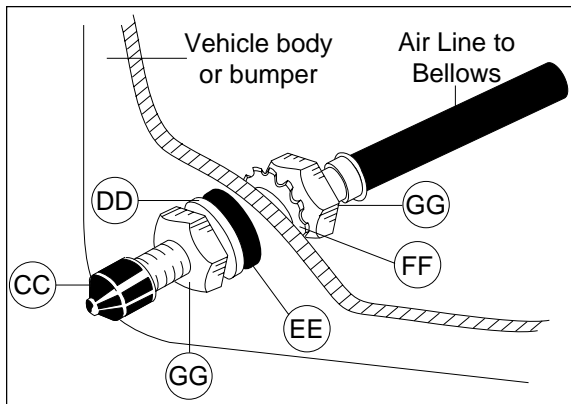

Figure 8
4. Place a $\frac{5}{16}$ " nut (GG) and a star washer (FF) on the air valve. Leave enough of the inflation valve in front of the nut to extend through the hole and have room for the rubber washer (EE), flat washer (DD), and $\frac{5}{16}$ " nut (GG) and cap (CC). There should be enough valve exposed after installation - approximately $\frac{1}{2}$ " - to easily apply a pressure gauge or an air chuck (Figure 8).
5. Push the inflation valve through the hole and use the rubber washer (EE), flat washer (DD), and another $\frac{5}{16}$ " nut (GG) to secure it in place. Tighten the nuts to secure the assembly in place (Figure 8).